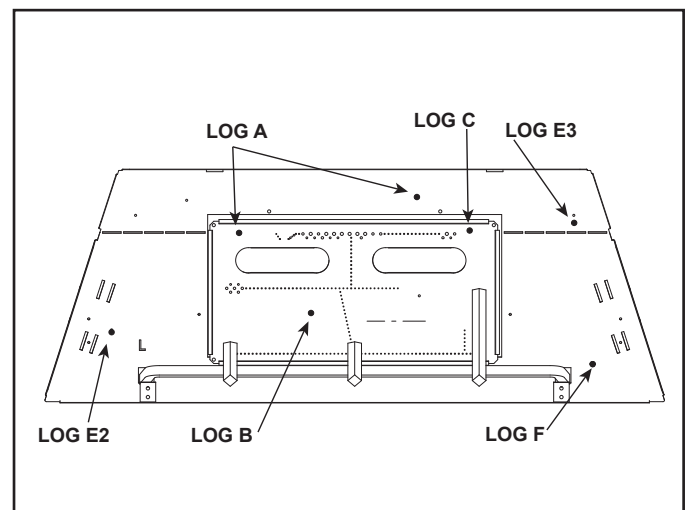
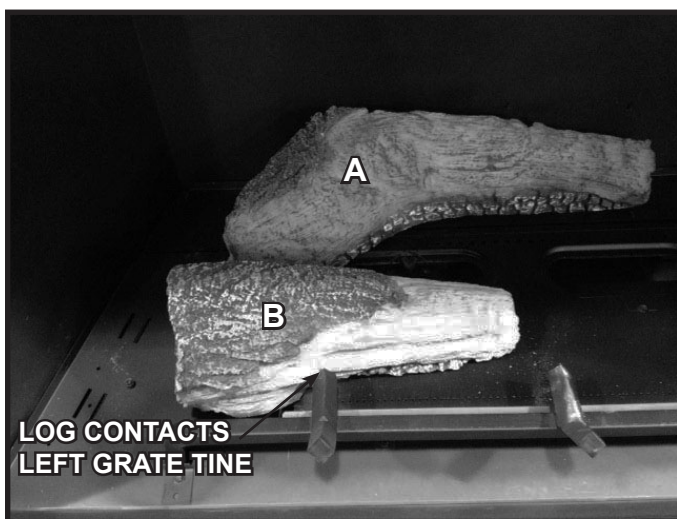
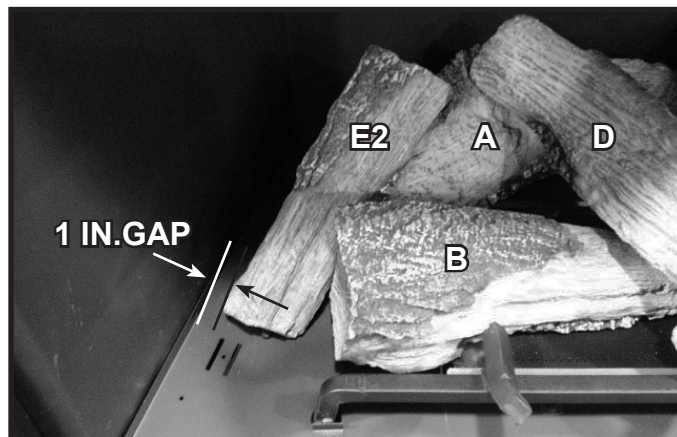

Figure 4. LOGSDBDV42 Log Pin Locations
Figure 6. Log B Installed
Figure 11. Log E2 Installed
1. **(LOG A):** Locate the two pin holes on the bottom of Log A. Hold the log so that the flat spot is facing the rear of the appliance and the pin holes are facing the base pan. Place Log A over the two pins referenced for Log A in Figure 4. Refer to Figure 5.
2. **(LOG B):** Locate the pin hole on the bottom of Log B. Place pin hole on Log B over the pin referenced for Log B in Figure 4. Hold the log over the pin and rotate the left side of the log until it contacts the left grate tine. See Figure 6.
6. **(LOG F):** Place Log F into appliance as shown in Figure 10. The burned out end of the log should rest on Log C and contact Log E1. The unburned end of Log F should rest against log pin F, as shown in Figure 4, and contact the back of the lower grate tine as noted in Figure 10.
7. **(LOG E2):** Place Log E2 into appliance as shown in Figure 11. The base of the log should be positioned against the pin indicated in Figure 4 for Log E2. The top side should rest against Log A. The base end of Log E2 should be approximately one inch from the left side of the firebox if no refractory is present. This distance will be about 1/4 inch if the optional brick refractory is installed or 3/4 inch if the optional black glass refractory is installed.